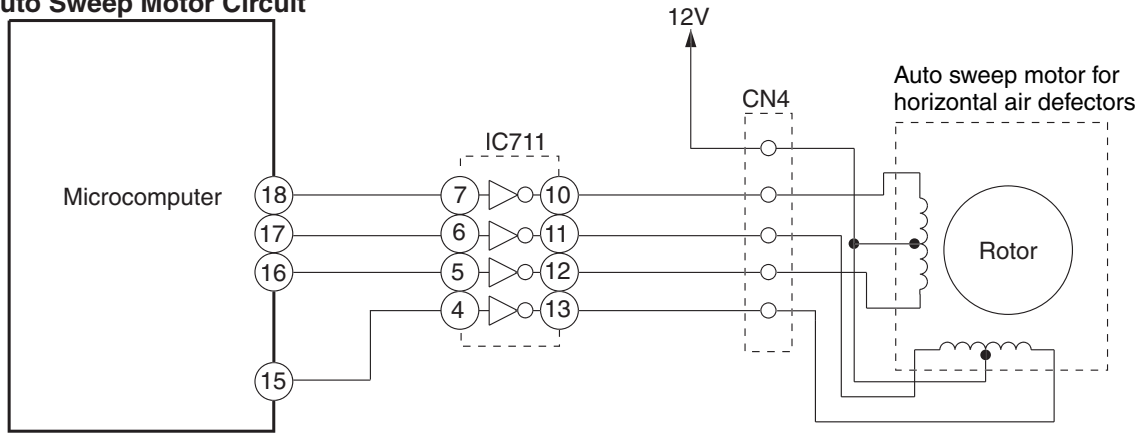
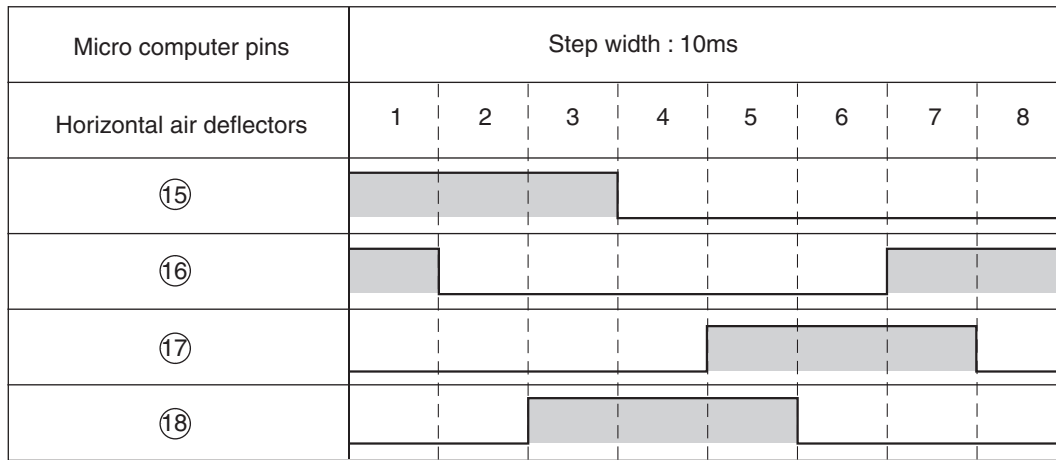

Fig.4-1
Fig.4-2 Microcomputer Output Signals
Fig. 4-1 shows the Auto sweep motor drive circuit; the signals shown in Fig.4-2 are output from pin ⑮~⑱ of microcomputer.
As the microcomputer's outputs change as shown in Fig.4-2, the coils of the auto sweep motor is excite to turn the rotor. Table 4-1 shows the rotation angle of horizontal air defectors.